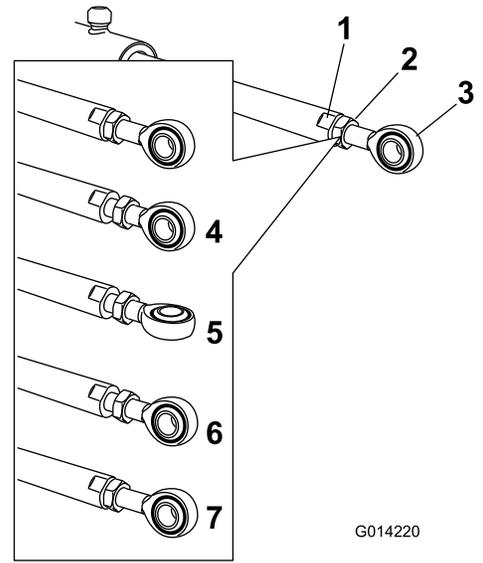

Figure 114
5. Use a wrench on the flat sides of the actuator rod to immobilize it, then loosen the jam nut to allow the eyelet rod to be adjusted (Figure 114).
6. Turn the eyelet rod in the actuator rod to shorten or lengthen the extended actuator to the desired position (Figure 114).